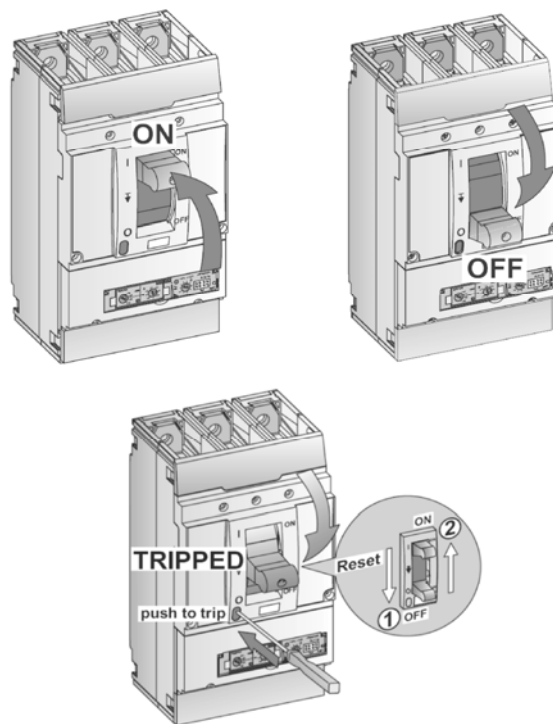

Figure 5. Mechanical operation of the circuit breaker.
To close the breaker from the OFF position, move the handle to the ON position. To close the breaker from the trip position, first move the handle fully to the OFF (reset) position and then to the ON position, as illustrated in Figure 5. A Push-To-Trip button is provided for convenience in testing the mechanical trip operation of the breaker, as shown in Figure 5. The Push-To-Trip operation should be tested annually.
- If the handle is in the TRIPPED position, reset the breaker by moving the handle fully to the OFF position and then to the ON position, as shown in Figure 5.